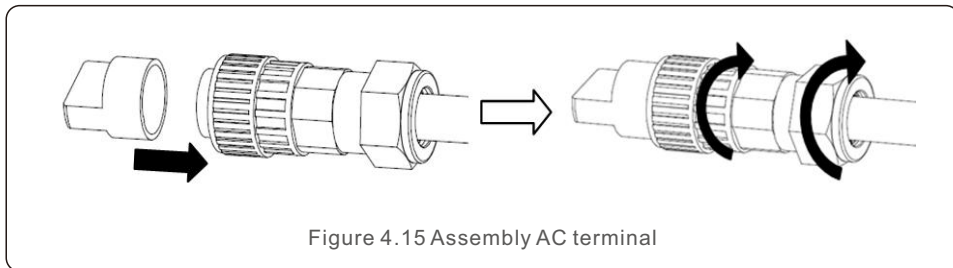

Figure 4.15 Assembly AC terminal
B) Clip plastic fixture (Auxiliary tighten) in socket element, tighten adapter in socket element, then tighten swivel nut with 2.5-4Nm torque (see figure 4.15).